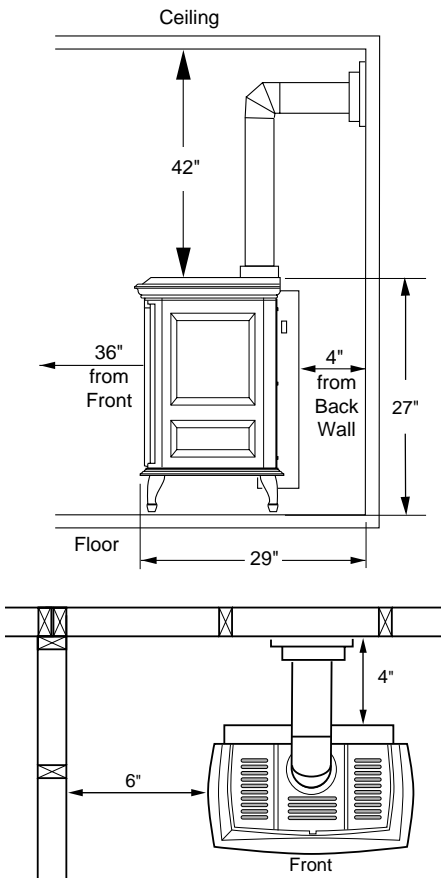

Figure 3 - Clearances for Standard Installation
3. Proper clearances must be maintained, see Figures 3 and 4.